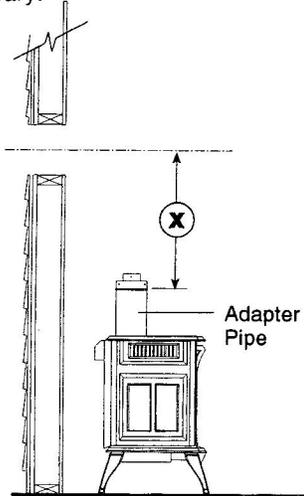

Figure 33. Determine the vertical pipe length.
4. If necessary, measure to determine the vertical length (X) of pipe required from the Adapter pipe to the wall cutout centerline, including a 2" overlap at the joint. Fig. 33. Use a hacksaw to trim the pipe as necessary.